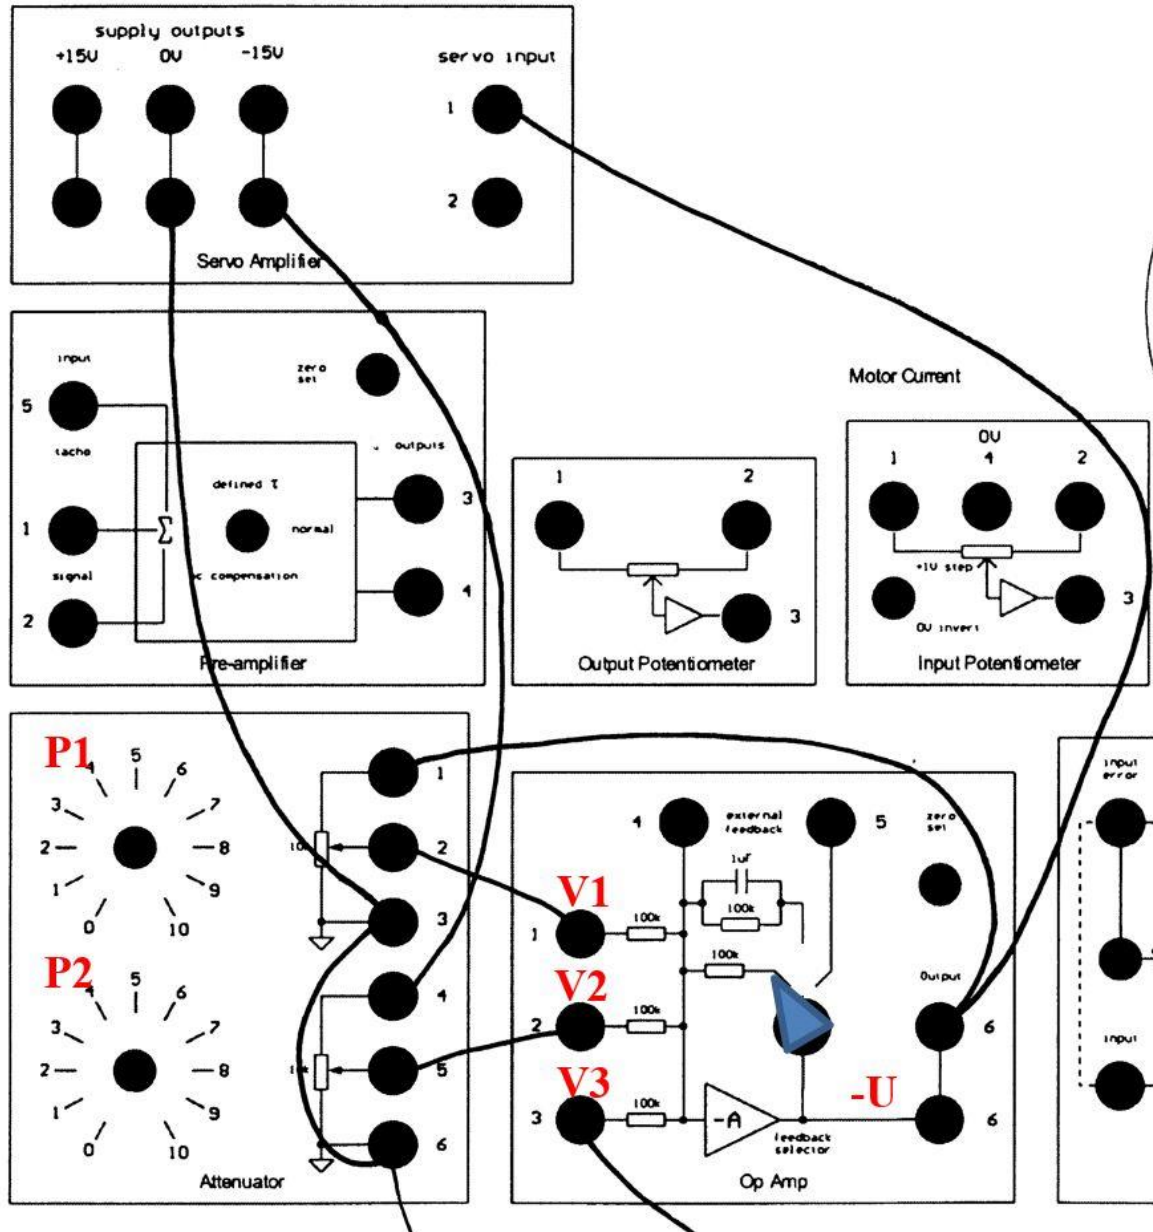

Figure 1.2
- Connect the devices as shown in Figure 1.2.
In Figure 1.2: